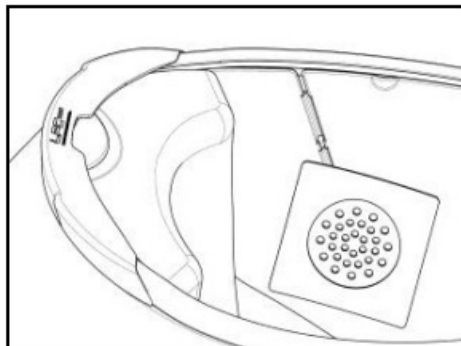

Fig. 26
- Position the right loudspeaker in its housing, inserting the cable in the special groove (Fig. 26). If necessary, secure the earphone using the adhesive supplied as standard equipment.